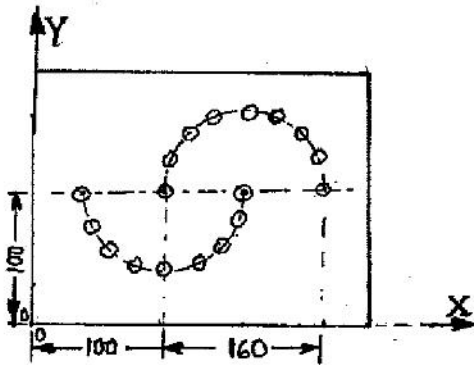

Fig. 3
12. Write an APT program for drilling holes (depth 5 mm) in a job shown in fig.3 using a CNC drilling machine. 10